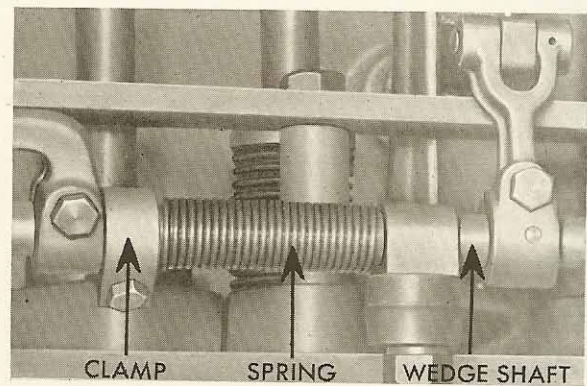

FIGURE 18-8
16. THE WEDGE SHAFT SPRING: The adjustment of this control is made with the hand wheel in the run position. The tension of the spring may be increased by rolling the clamp on the wedge shaft so that the spring will return the wedges to full speed position if they are pulled out by hand. This adjustment should be made with the flywheel at least 30 degrees from any top center. If the wedge shaft has been removed from the engine, be sure that it is turning freely in its bearings before adjusting the wedge shaft spring. Figure 18-8 is a close-up view of the spring and clamp.
The wedge shaft spring (see Figure 18-8) is primarily for the purpose of taking up the lost motion in the linkage, but since it acts in the same direction as the governor spring, and is considerably lighter, it serves well as a governor spring during idling, and is so used. The idling speed may be varied by adjusting the clamp holding this spring to the wedge shaft, thus changing the tension on the spring. It should be set at from 100 to 120 revolutions per minute with the control lever at slow. This is usually obtained by tightening the clamp and spring about one half turn from its free position. This adjustment must be made in such a way that the effect of the wedge shaft spring will force the wedges to full speed position.